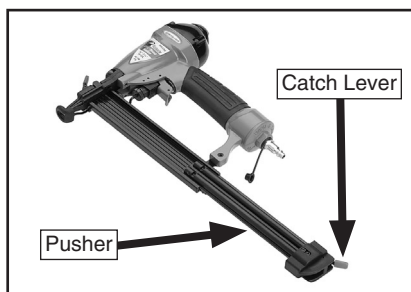

Figure 3. Releasing catch lever and sliding magazine pusher back.
2. Grip the nailer firmly, release the catch lever and slide the magazine pusher open, as shown in **Figure 3**.